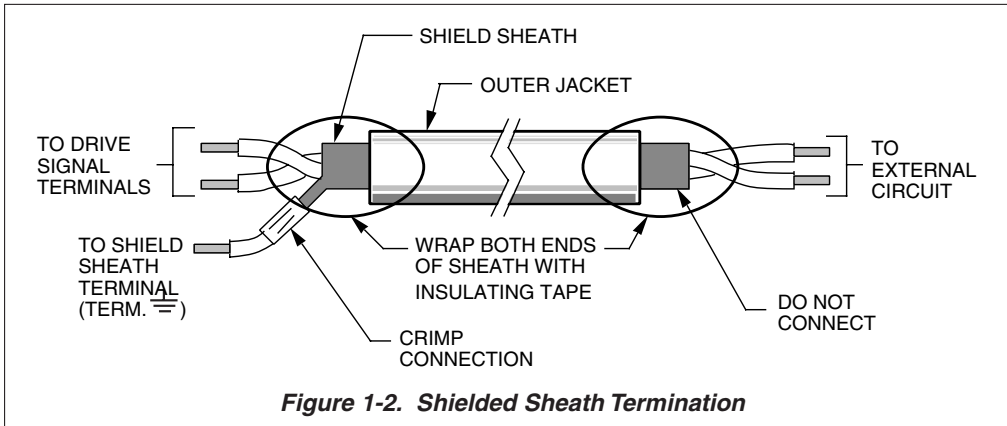

Figure 1-2. Shielded Sheath Termination
- Use twisted shielded or twisted-pair shielded wire (20-16 AWG [0.5 – 1.25mm²]) for control and signal circuit leads. The shield sheath **MUST** be connected at the drive end **ONLY** (terminal \oplus). The other end should be dressed neatly and left unconnected (floating). See Figure 1-2.
- Signal leads and feedback leads (PG) must be separated from control leads main circuit leads, and any other power cables, to prevent erroneous operation caused by electrical noise.